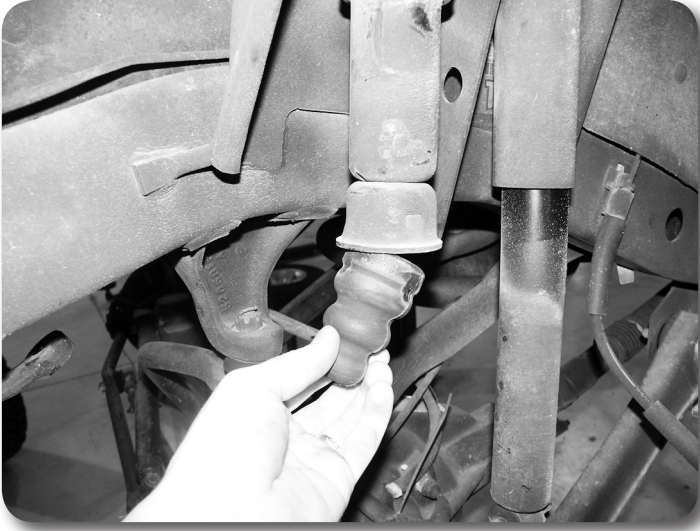

Figure 5
14. Remove the factory bump stop from the upper coil mount **Figure 5**. Large pliers can be used to pull it out. Remove the factory bump stop retainer cup by removing the bolt (15mm) from the center.